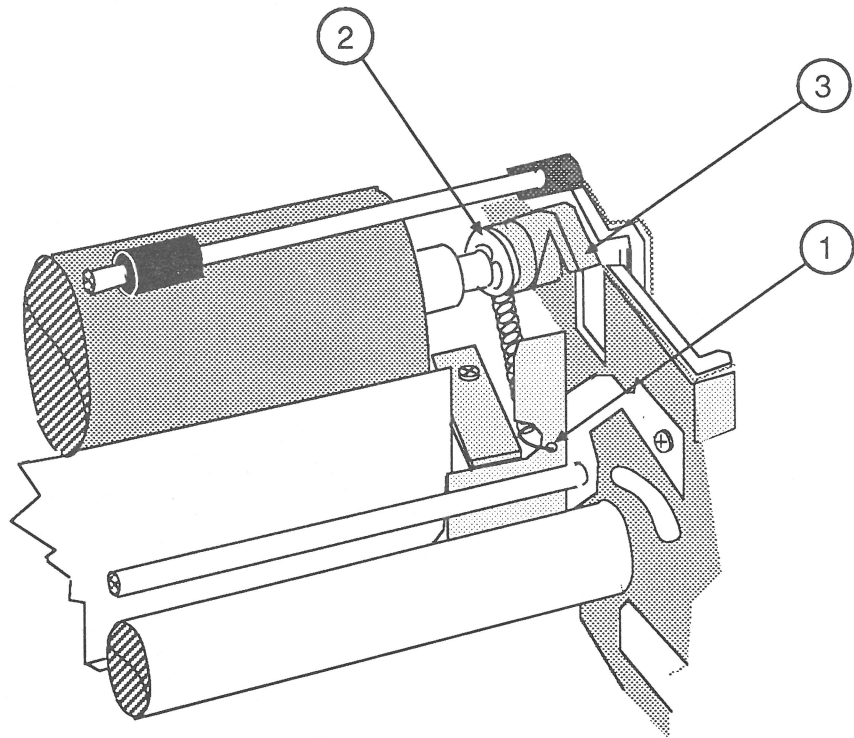

FIGURE 6
3. Disconnect the left and right springs (Figure 6, #1) between the gap adjustment cams and the paper guide plate. Leave the spring attached to the lever assembly.
4. Using the needlenose pliers or the jeweler's flat-blade screwdriver, remove the E-rings (Figure 6, #2) on the left and right gap adjustment cams.
5. Move the left and right gap adjustment cams (Figure 6, #3) inward, toward the platen.